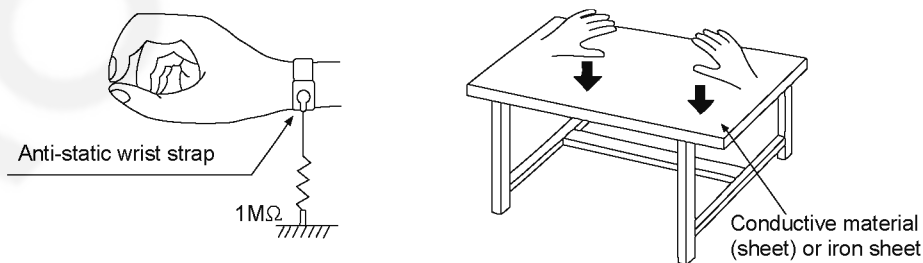

Figure 2-3
- Use the anti-static wrist strap to discharge the static electricity from your body in Figure 2-3.